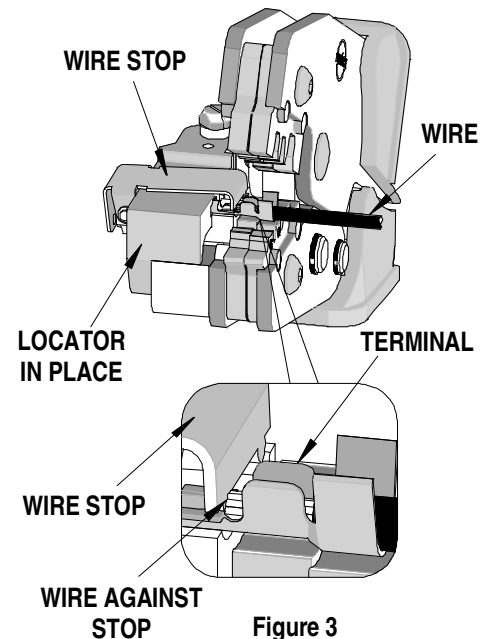

Figure 3
4. Return the locator to its original position. Insert the proper wire over the terminal. Some large O.D. wires may need to be placed into the terminal before closing the tool. Gently touch the wire stop with the end of the wire. See Figure 3.